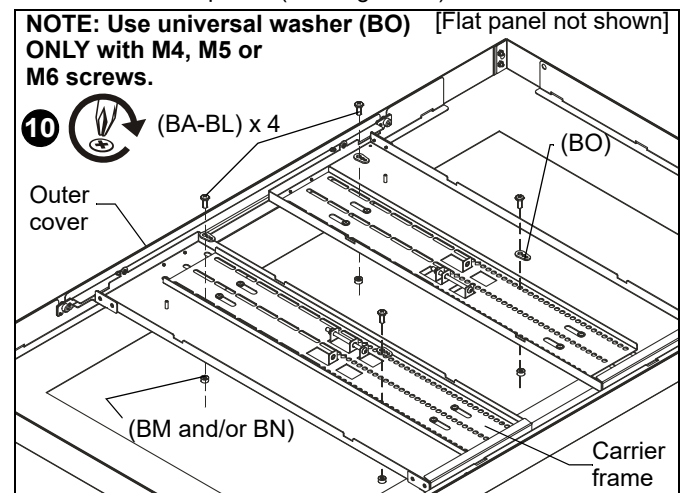

Figure 10
- Place carrier frame onto back of flat panel and match the VESA pattern on flat panel to the carrier frame mounting slots. Also match the threaded studs in outer frame to the hooks on the carrier frame. (See Figure 10)
- Use selected screws (BA-BL), washers (BO--if required), and spacers (BM, BN--if required), to connect carrier frame to back of flat panel. (See Figure 10)